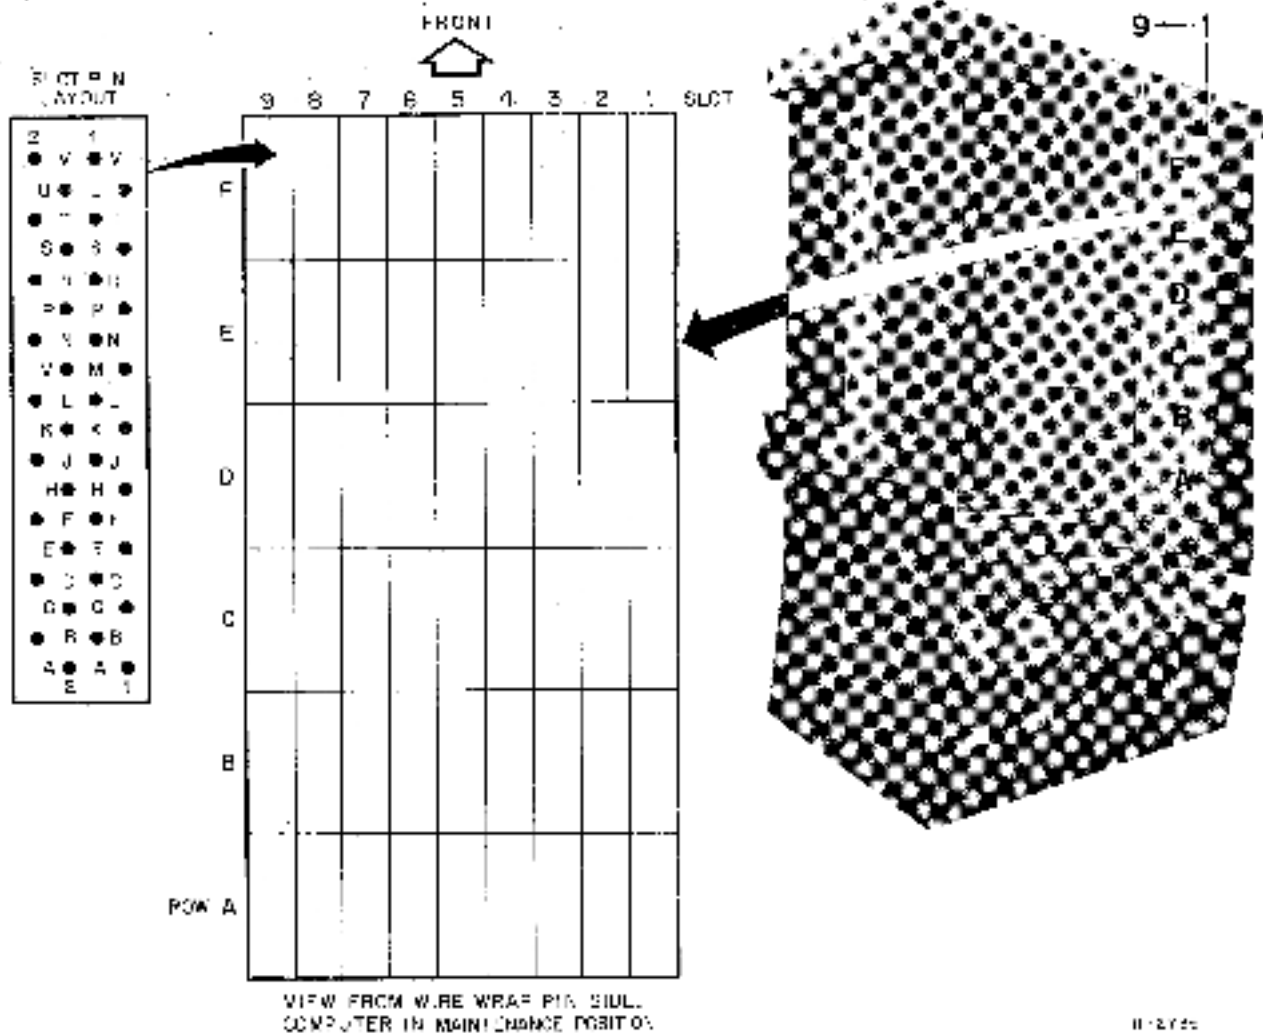

Figure 2-4 BA11-K with Double System Unit (Wire Wrap Side)
1. Install the required number of system units in the BA11-K and secure them to the mounting boxes using the screws provided. The system units are installed with slot A adjacent to the power distribution board. Figure 2-4 shows a double system unit installed in a BA11-K box configuration.